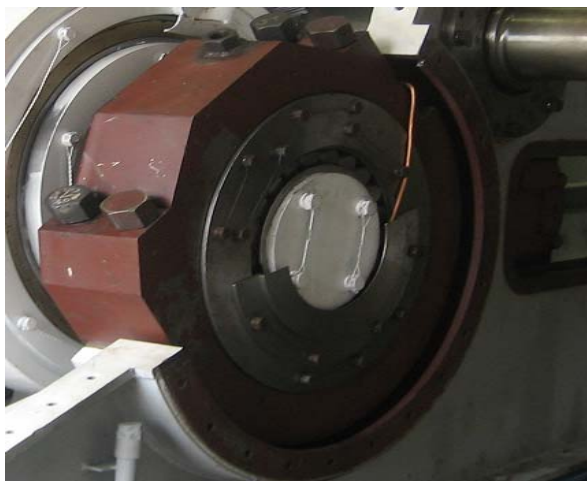

Figure 5-4 Crankshaft Main Bearing Housing
4. Mark and remove right and left crankshaft main bearing housing top (Figure 5-4).
3. Install and secure bearing caps (Figure 5-4).